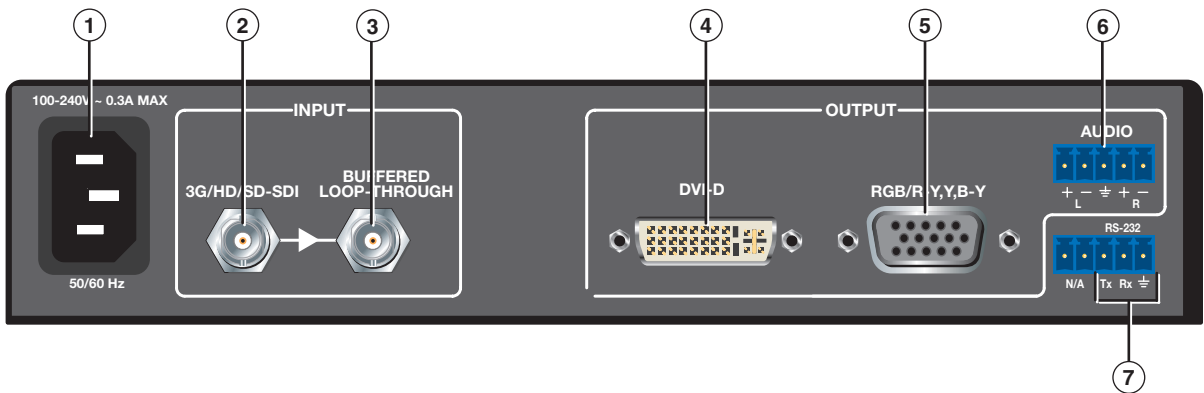

Figure 2. DVC 501 SD Rear Panel
3. **Connect the input.** Connect an SDI, HD-SDI, or 3G-SDI source to the 3G/HD/SD-SDI Input BNC connector (② in figure 2 on the next page).
4. (Optional) **Connect a monitor or recording device.** Attach a monitor or a video recording device to the Buffered Loop-through Input BNC connector (③ in figure 2).
- **DVD-D** — Digital video (④ in figure 2)
- **RGB/R-Y,Y,B-Y** — Analog RGB (RGBHV, RGBS, and RGSB) or YUV component video (⑤ in figure 2)
6. **Connect the audio output.** Connect an amplifier or other audio output device to the 5-pole captive screw audio connector (⑥ in figure 2).
- **RS-232 port (rear panel)** — Serial RS-232 connection (⑦ in figure 2)